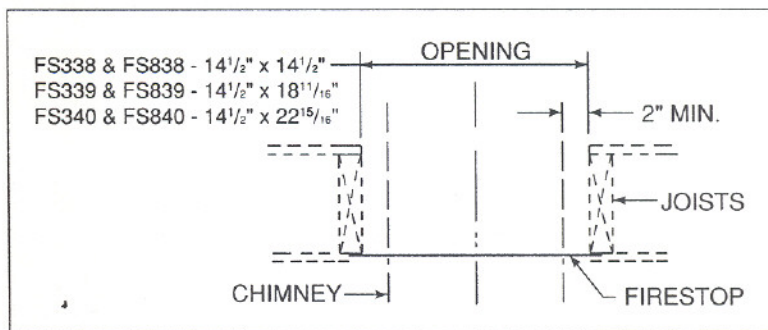

Figure 13
Install the Firestop Spacer FS338 or FS838 (Straight), or FS339, FS340, FS839 or FS840 (15° or 30° Offset, if Offset is located in the ceiling joist area). Nail the four sides of the Firestop to the joists using a minimum of (3) nails per side. These Firestop Spacers are designed to provide the minimum two inch air space around the chimney. In all situations, the Firestops are to be nailed to the ceiling joists from the bottom or fireplace side. When the space above the ceiling is an attic space, then the top pan that comes with the Firestop must also be used. Nail the top pan from the attic side to ensure against loose or later blow-in-type insulation from falling into the required two inch air space around the chimney. See Figure 13. Firestop Spacers must be used at all ceiling levels where the chimney penetrates a living space.